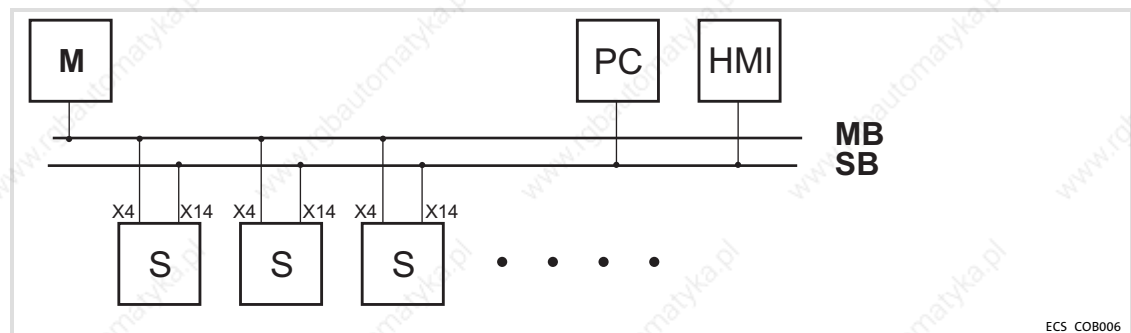

Fig. 5-15 MotionBus (CAN) with higher-level control
- In Fig. 5-15 a higher-level control takes over the function of the master, e. g. ETC.